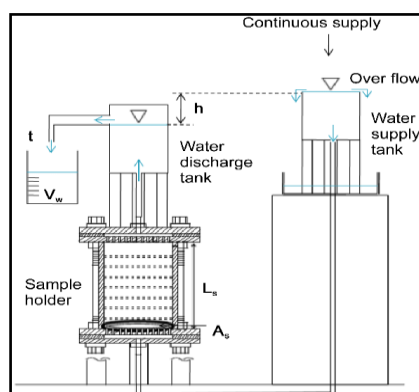

Figure 6.1. Grain Size and Permeability Tester
- Calculate the AFS grain fineness number using figure 6.1